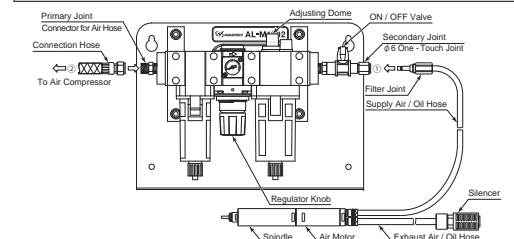

Fig. 6 Connection of Air Line Kit *AL - M1202 (Sold Separately) *
- Connect the Filter Joint of the supply air / oil hose to the Secondary Joint ($\phi 6$ One - Touch Joint) of the Air Line Kit (Fig. 6 ①).
- Connect the Connection Hose (Air Line Kit's Standard Accessories) to the Primary Joint of the Air Line Kit and Compressor (Fig. 6 ②).